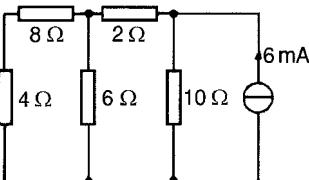

Figure 13.63
- 3 Determine the current flowing in the 6Ω resistance of the network shown in Fig. 13.63 by using Norton's theorem. [2.5 mA]